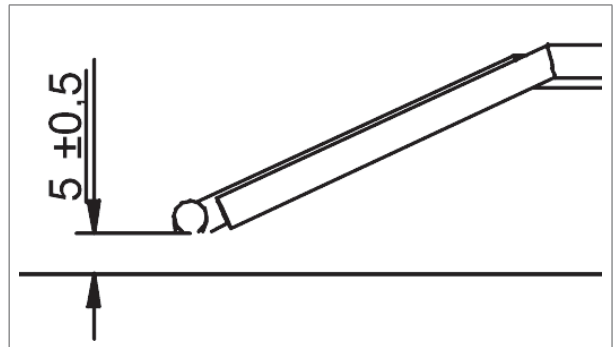

Figure 21 - Distance between the electrode and the burner
- a. The distance between the electrode and the burner should be  $(\pm)$  mm (figure 21).